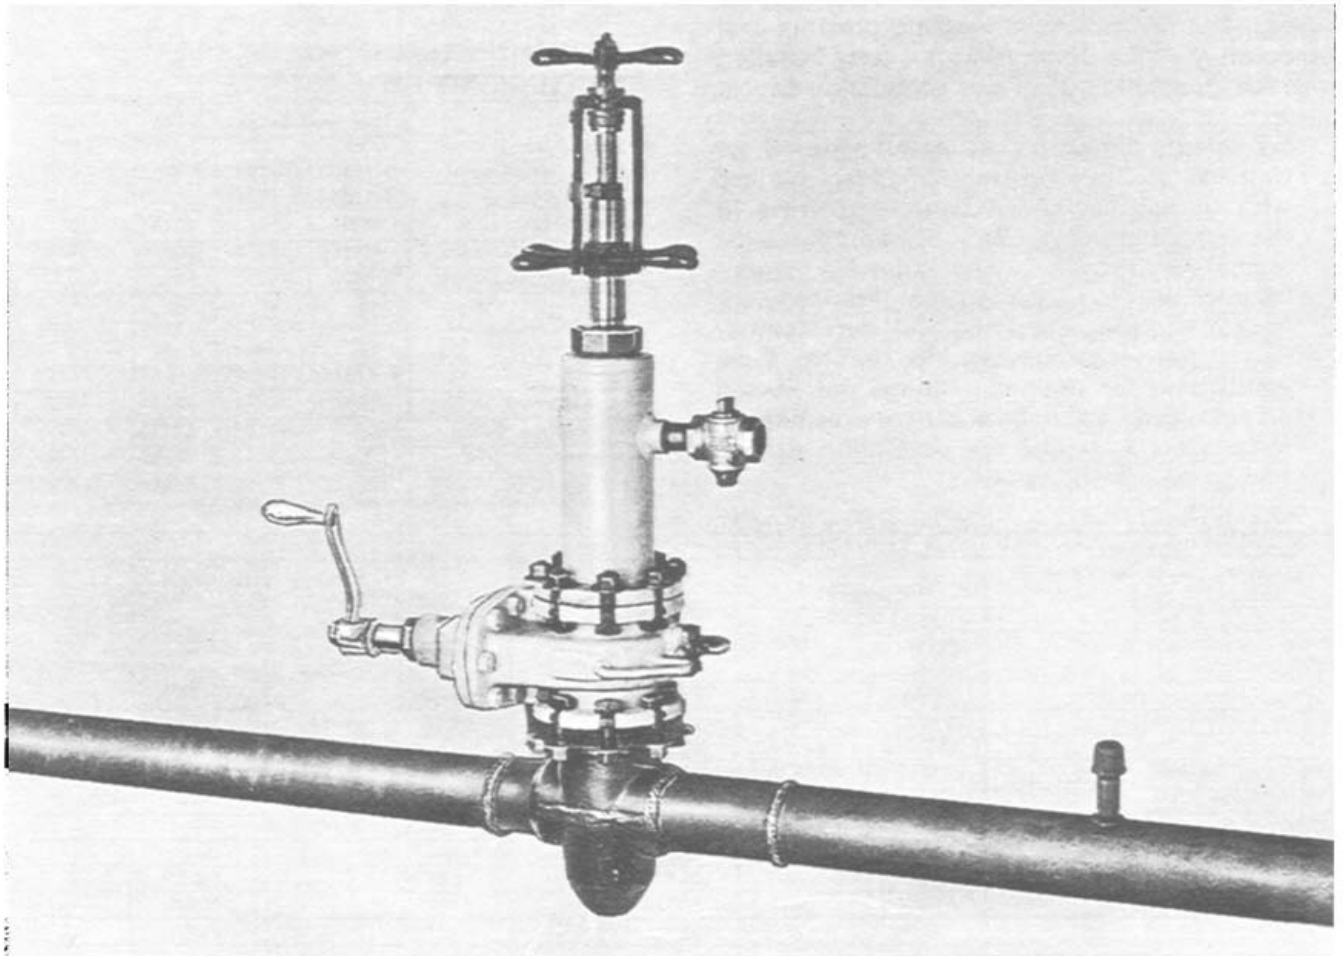

FIGURE 41
**NOTE:** Once the fitting has been stopped off, cut off the capped end of the fitting and weld extension of piping to the outlet end of the fitting. See **Figure 41**. If cutting with torch and welding, check to be sure that fitting doesn't become too hot. Fitting can be covered with wet rags or wet burlap.
NOTE: Once the fitting has been stopped off, cut off the capped end of the fitting and weld extension of piping to the outlet end of the fitting. **Figure 41**. If cutting with torch and welding, check to be sure that fitting doesn't become too hot. Fitting can be covered with wet rags or wet burlap.